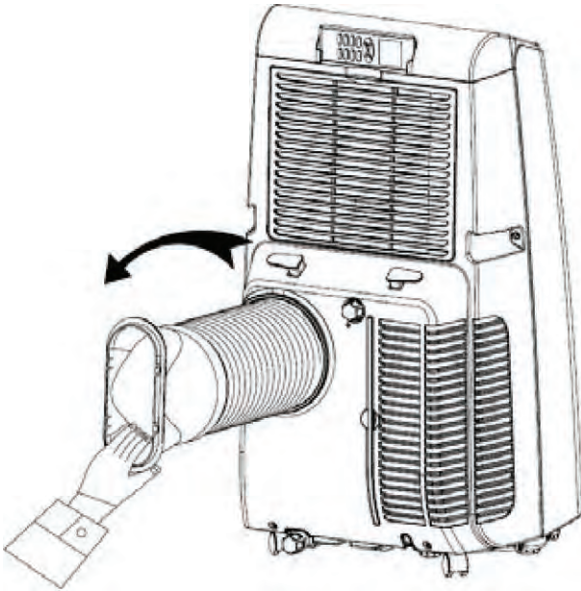

Figure 1
1.1 Install the exhaust hose assembly (as shown in Figure 1):